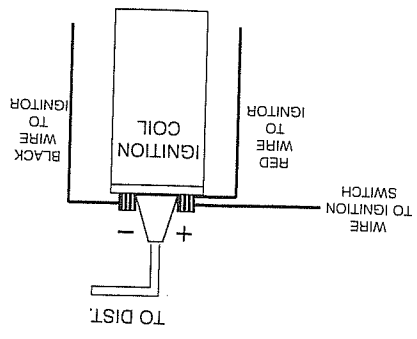

FIGURE 2
5. The red wire from the Ignitor must be connected to the positive (+) side of the coil, or a 12 volt (+) switching power source. (See Figure 2 & 3). The black wire must be connected to the negative (-) side of the coil.
12. For installations that do not use a primary ballast resistor, connect the *Ignitor* red wire to the positive (+) side of the ignition coil. (See Figure 2).